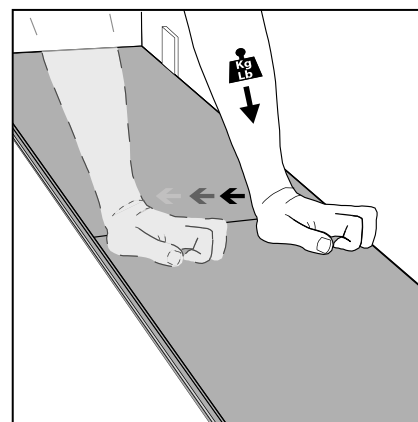

Figure 13 Ensure joints are fully engaged on the short sides
- ▶ Press firmly down on the short end of the next panel into the corresponding short edge of the first one, you should audibly hear these lock securely together. Using hand pressure gently push down the short joints along the short end just installed. (Fig 13).